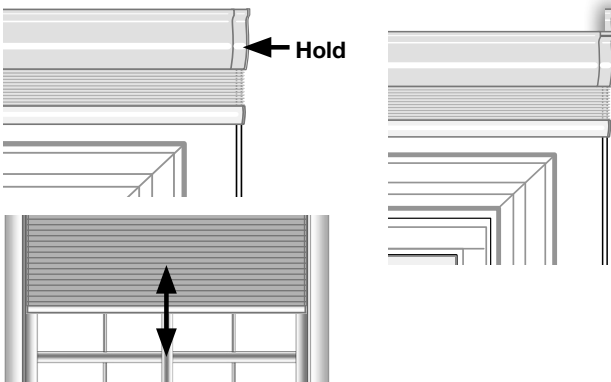

Fig. 21
B. Press and hold the button on the headrail/motor end until the LED begins to flash amber (about seven seconds) and release. The shade will jog, confirming exclusion. (Fig. 21)